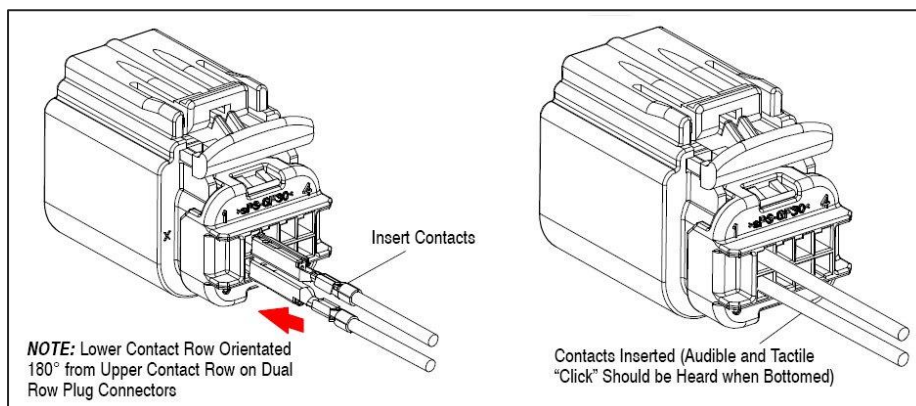

Figure 3-6. Inserting Contacts into Connector
- b) Locate the desired circuit into which the individual socket contact will be loaded. The contact must be inserted from the wire end (rear) of the plug connector until it bottoms (there should be an audible and tactile “click”). Each socket contact must be locked in place. Gently pull on the wire to ensure proper contact locking and retention with a force of 4.5 to 8.9 N [1 to 2 lbf]. See **Figure 3-6**.